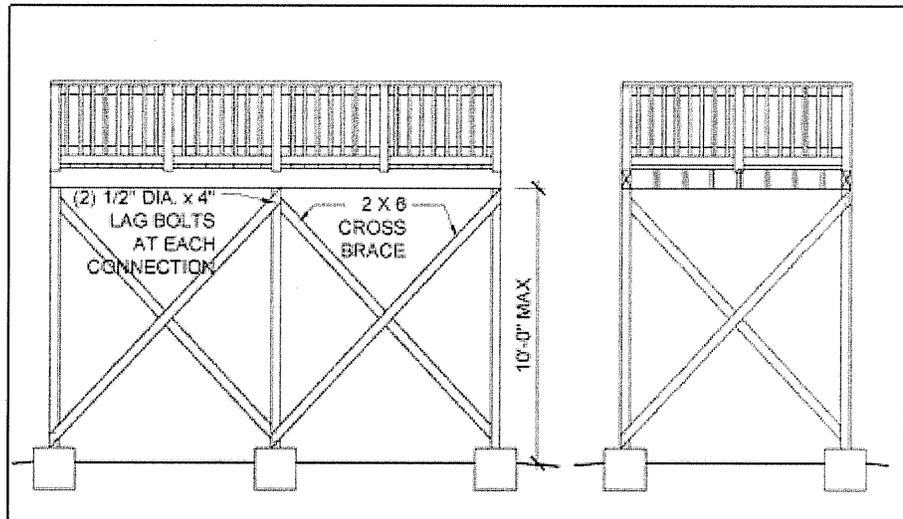
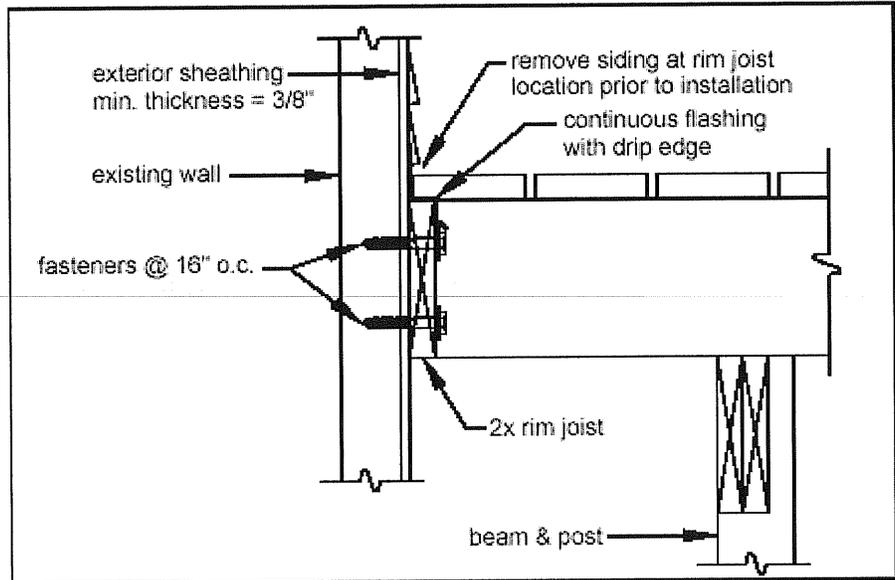

Figure 14 - Diagonal Bracing Requirements
Figure 15 – Attachment to House Lateral Support
8. See Figures 15 to 34 for bracing, connection, built-up beam, footing, guardrail, and stairway details.
Bracing: Provide diagonal cross bracing as shown in Figure 14. Bracing shall be located between posts parallel to beams and bolted by a minimum of two 1/2" diameter by 6" lag bolts or two 1/2" thru-bolts at each end to the posts as shown. Diagonal bracing shall also be located perpendicular to beams, and in such cases, bracing shall be bolted to the post and joist above the post location. If the deck is free-standing, diagonal bracing must be provided on all the posts and in both directions.
Lateral support is provided for one-half of the deck by the attachment of the deck rim joist to the existing house as shown in Figure 15 (the beams and posts furthest from the house still require the diagonal bracing as shown in Figure 14). The existing exterior wall must have sheathing consisting of structural wood panels with a minimum thickness of $\frac{3}{8}$ " , and the fasteners shall attach to an existing band board or wall stud. The deck rim joist may also attach to a concrete wall, but not to a brick veneer.